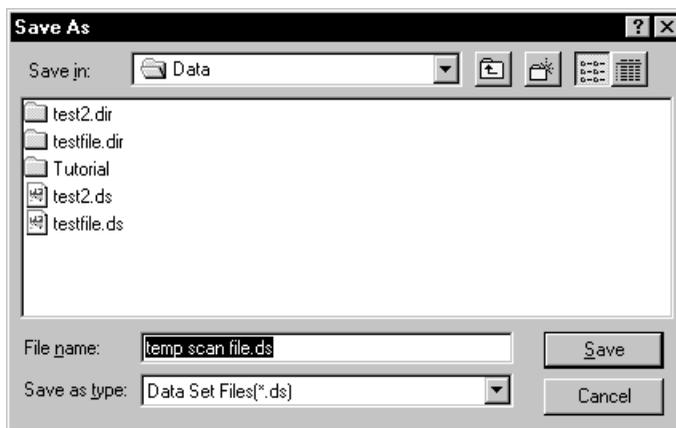

Figure 9-8. The Save As window for entering the dataset name for the image.
2. Click the **Scan** button. The Save As window appears (figure 9-8).